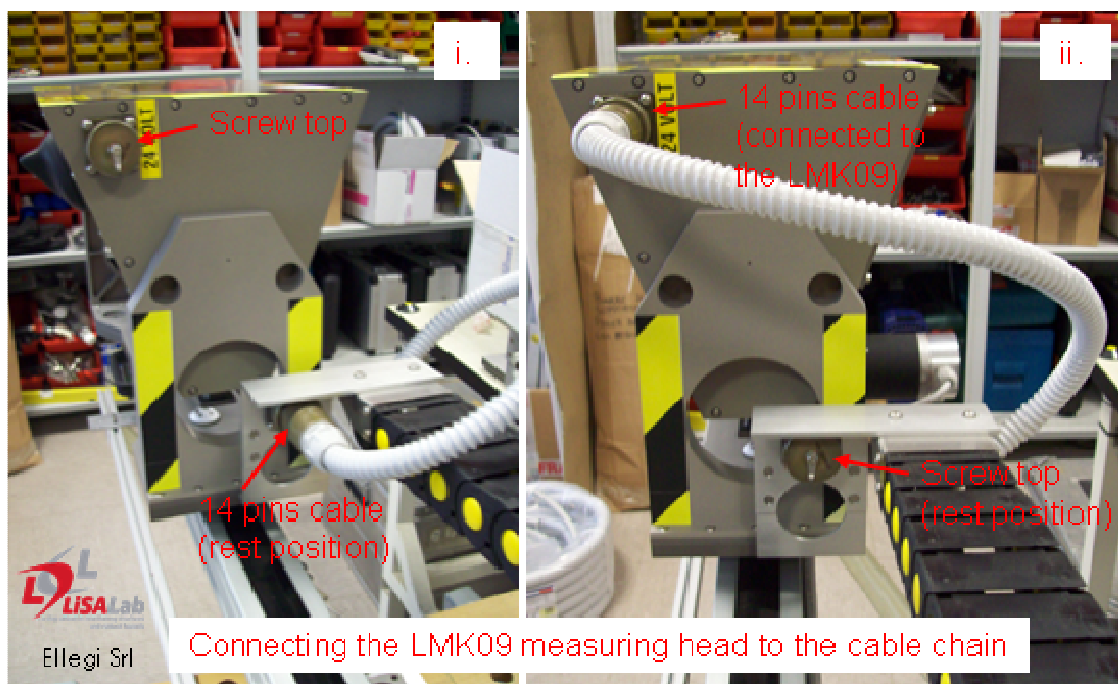

Figure 11: Step 5 of the installation procedure. Connect the measuring head LM to the cable chain.
5. Leaving the measuring head in the transport position connect it with the 14 pins standard MIL connector of the cable chain and put the screw top that was on the head plug on the rest plug of the cable chain (Figure 11).